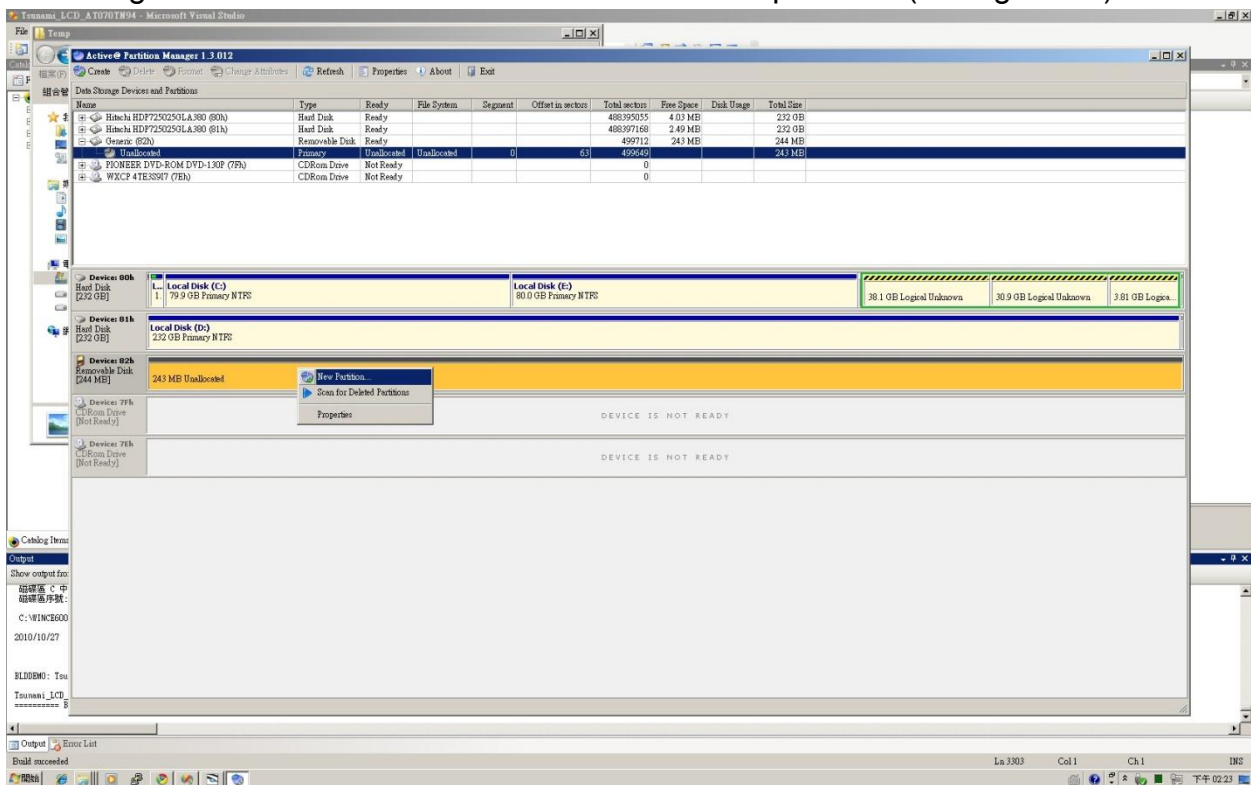

Figure 10
- Right click on removable disk and choose “new partition” (see figure 10)